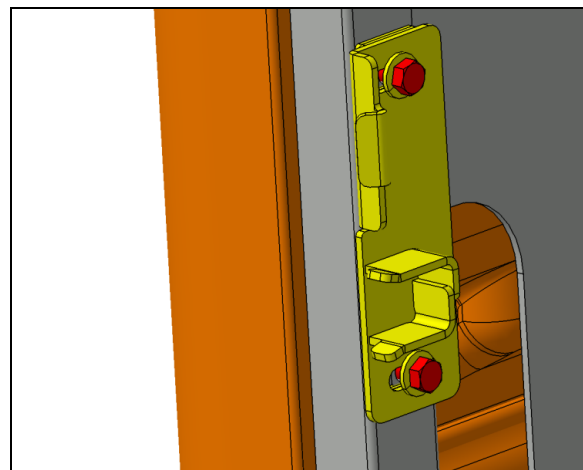

FIGURE 69
- Perform the transversal adjustment by moving the strike plate using the slotted holes (FIGURE 69).